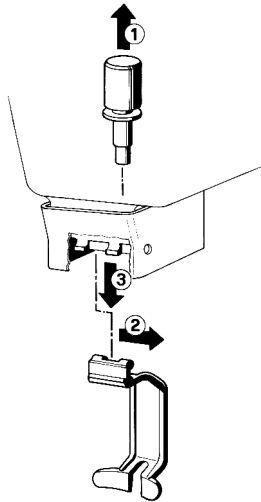

figure 6
- 1 - Extract (1) the piston and then remove (2-3) the faucet handle (see figure 6).